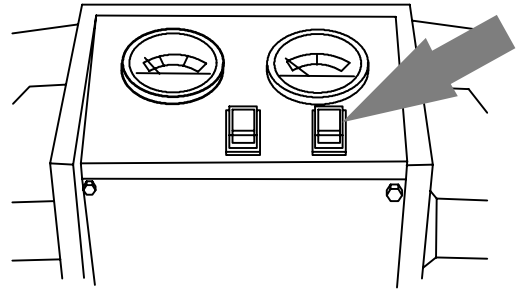

FIG. 25
- Turn solution switch on. The solution will not flow until control grips are rotated (Figure 25).